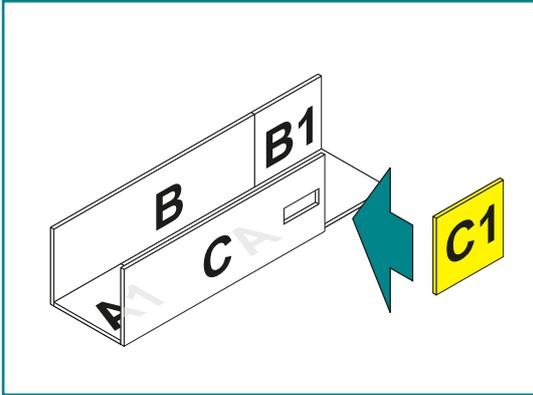

figure 6
2.2.5 Mount panel C1 to panels A and C. (figure 6)